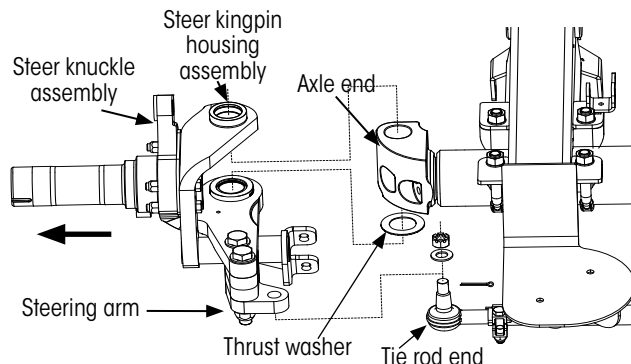
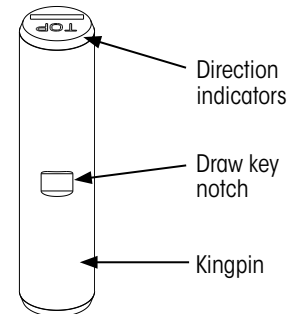

Figure 19: Steer knuckle removal
Figure 23: Kingpin
- Remove** the steer knuckle (Figure 19) by sliding it off the axle end. The thrust washer will fall from the connection.
1. **Thoroughly clean** the contact surfaces for the steering arm and tie rod end (Figure 19 on page 14). **Thoroughly clean** the hole in the axle end for the kingpin (Figure 23).